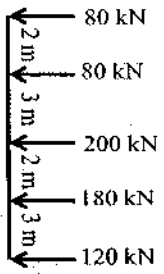

Figure 3
- A) A train of 5 wheel loads as shown in Figure 3 crosses a simply supported beam of span 24 m from left to right. Calculate the maximum positive and negative shear force values at the centre of span and absolute maximum bending moment anywhere in the span.